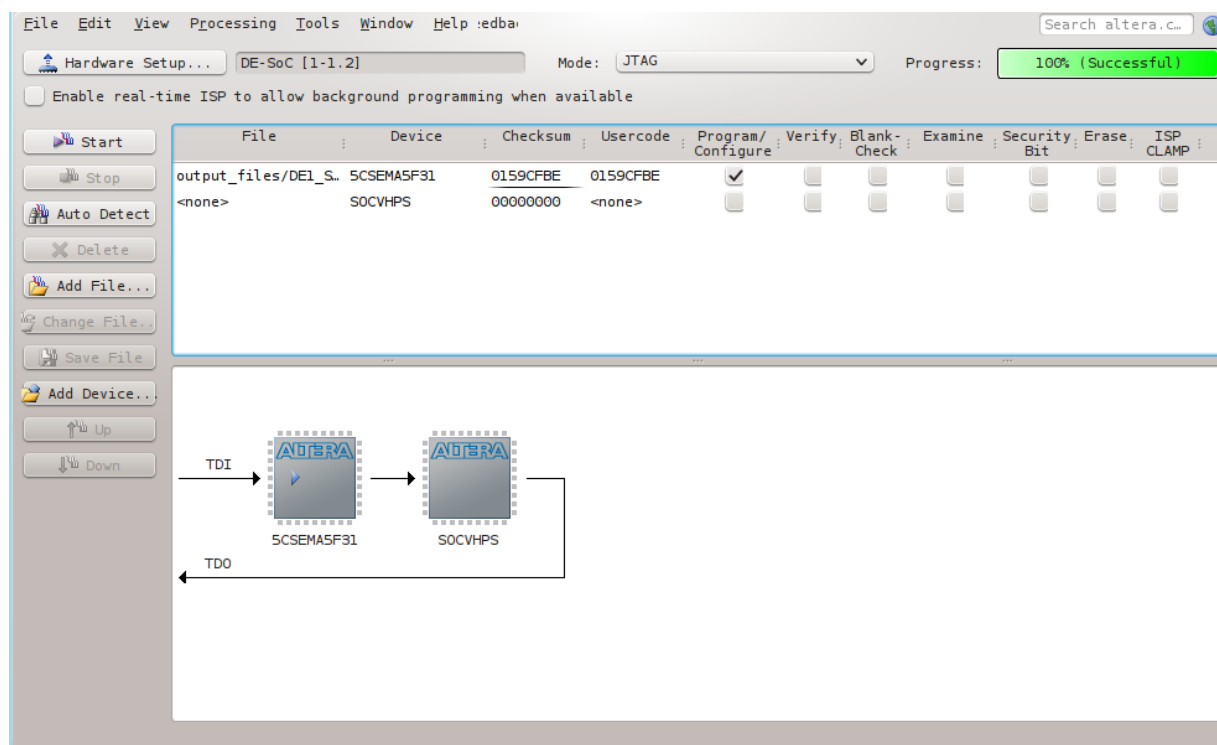

Figure 8-21. Programming the FPGA
43. Enable the “Program/Configure” checkbox for device “5CSEMA5F31”, then press the “Start” button, as shown in Figure 8-21.